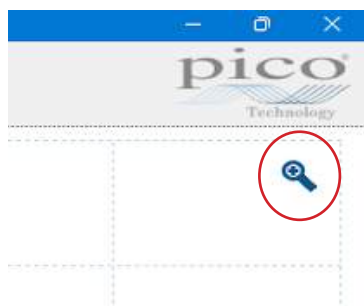

Fig.1
- **Zoom button** Dedicated zoom button is available in the righthand corner of the display, see Fig.1.